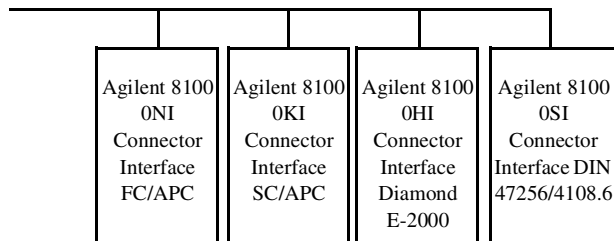

Figure 10 Options 022, 072: Single-mode fiber/PMF with Angled Contact Connectors
- 2 Connect your cable (see Figure 10).